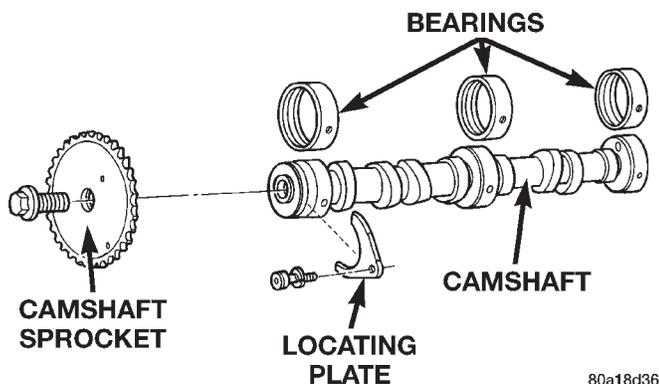

Fig. 50 Camshaft Assembly
- (1) To service camshaft (Fig. 50) the engine must be removed from vehicle.
- (2) Remove valve cover. Refer to valve cover removal in this section.
- (3) Remove rocker arms and push rods. Identify push rods to ensure installation in their original location.
- (4) Remove cylinder head. Refer to cylinder head removal in this section.
- (5) Remove hydraulic tappets. Refer to tappet removal in this section.
- (6) Remove vibration damper. Refer to vibration damper removal in this section.
- (7) Remove power steering pulley.
- (8) Remove pump shaft support bracket.
- (9) Remove timing chain cover. Refer to timing chain cover removal in this section.
- (10) Remove timing chain. Refer to removal procedure in this section.
- (11) Install camshaft sprocket holding tool VM.1031 to lock the camshaft sprocket in place.
- (12) Remove camshaft sprocket bolt and remove sprocket (Fig. 50).
- (13) Remove locating plate, and reinstall sprocket and bolt finger tight.
- (14) Remove camshaft.
- (1) With engine completely disassembled, drive out rear cam bearing core hole plug.
- (2) Install proper size adapters and horseshoe washers (part of Camshaft Bearing Remover/Installer Tool) at back of each bearing shell. Drive out bearing shells (Fig. 50).